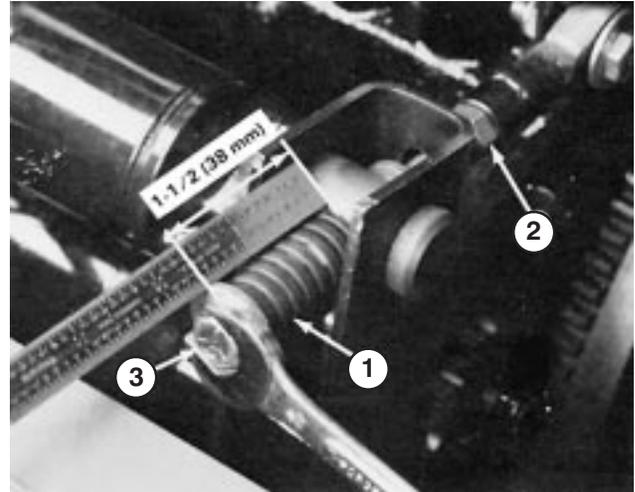
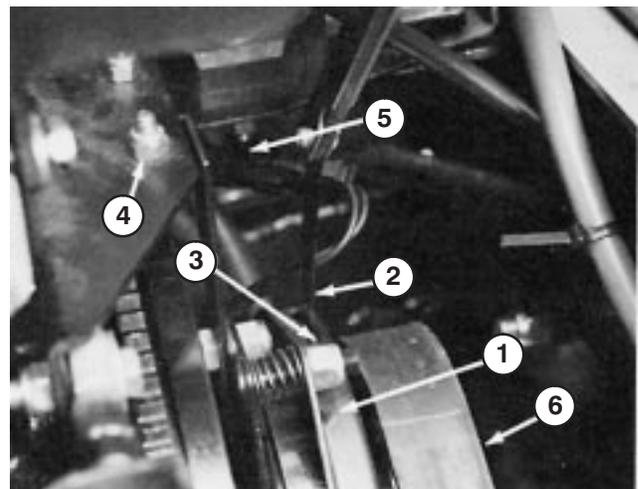

Figure 43
Figure 44
2. Loosen the tensioning rod jam nut (Fig. 43).
3. Use a 1/2" wrench to tighten or loosen the belt tensioning spring (Fig. 43). Adjust spring to a length of 1-1/2" (38 mm).
3. Using a 1/2" wrench, loosen the belt tensioning spring (Fig. 43) all the way.
4. Rotate PTO pulley toward the engine and remove the belt (Fig. 44).
5. Install the new PTO belt and re-tension the pulley spring to 1-1/2" (38 mm) (Fig. 43).
6. Tighten the jam nut (Fig. 43) and close the hood.
2. Remove the left hand clutch retainer bracket nut and bolt so that the retainer bracket rubber bumper can be removed (Fig. 44).
3. Unplug clutch electric connector (Fig. 44).
- Adjust the air gap so that a .015 inch feeler gauge slides in between the clutch lining and friction plate with light pressure (Fig. 44). The gap can be decreased by turning the adjusting nut clockwise (Fig. 43).